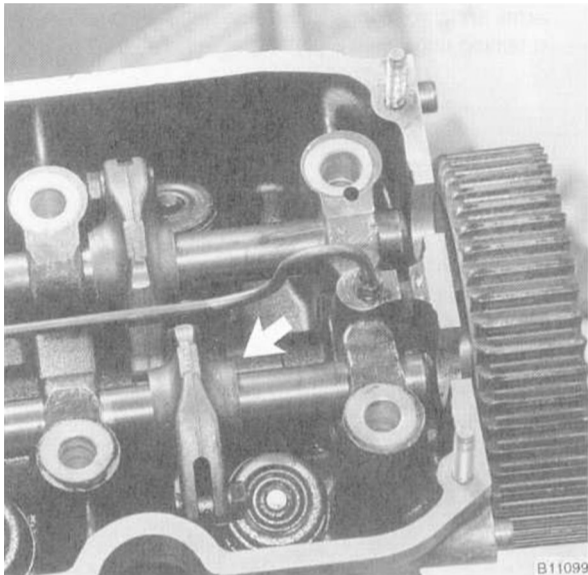

Fig. 21. Rocker arm positioned (arrow) for removal of exhaust-side rocker arm shaft.
8. Using the rotor adaptor mounting bolt, rotate the camshaft clockwise until the no. 6 intake and exhaust valves are both open (overlapped). Slide the no. 1 exhaust-side rocker arm off the top of the valve. See Fig. 21.